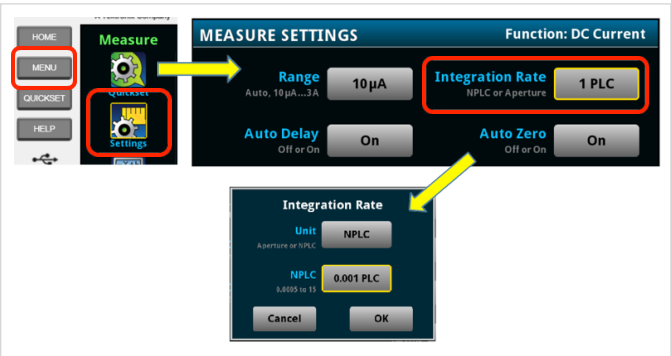

Figure 7: Modifying the Integration Rate to adjust for timing offsets.
**Figure 8a** shows the timing offset significantly reduced and the user is much closer to the desired timing defined in the Trigger Template. **Figure 8b** shows the timing improvement when the user also disables the Auto Delay and Auto Zero features (seen above in **Figure 7**).